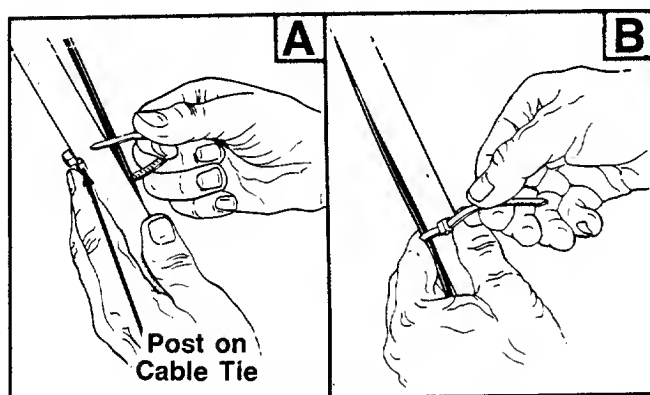

**FIGURE 7.—Tecumseh Engine**
2. The throttle control cable is attached to the upper handle. Route the throttle control cable under the lower handle and inside the handle mounting bracket. Hook the "Z" end of the throttle control cable into the control lever on the engine as shown in figure 7.
3. Loosen (do not remove) the screw on the cable clamp shown in figure 7. Slip the control casing under the clamp (cable must move freely beneath the clamp).